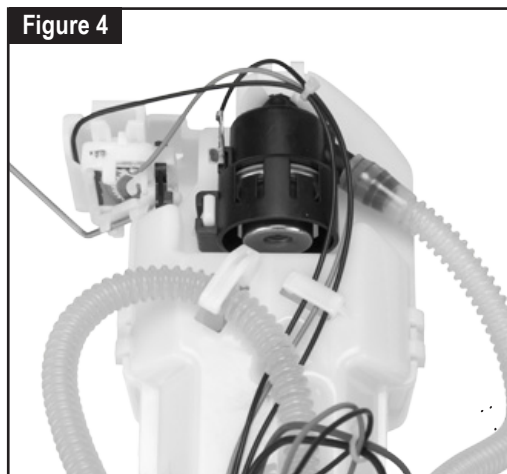

Figure 4
6. Once the rheostat and float arm assembly is in position, ensure the yellow and black wires from the rheostat are placed as shown and do not interfere with the float arm movement (figure 4)